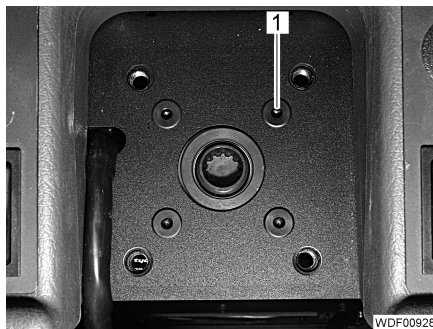

Fig. 191 Orbital steering valve attachment
- Unscrew the 4 screws (Fig. 191,1) and remove the orbital steering valve rearwards.
- Screw in and tighten the 4 screws (Fig. 191,1).